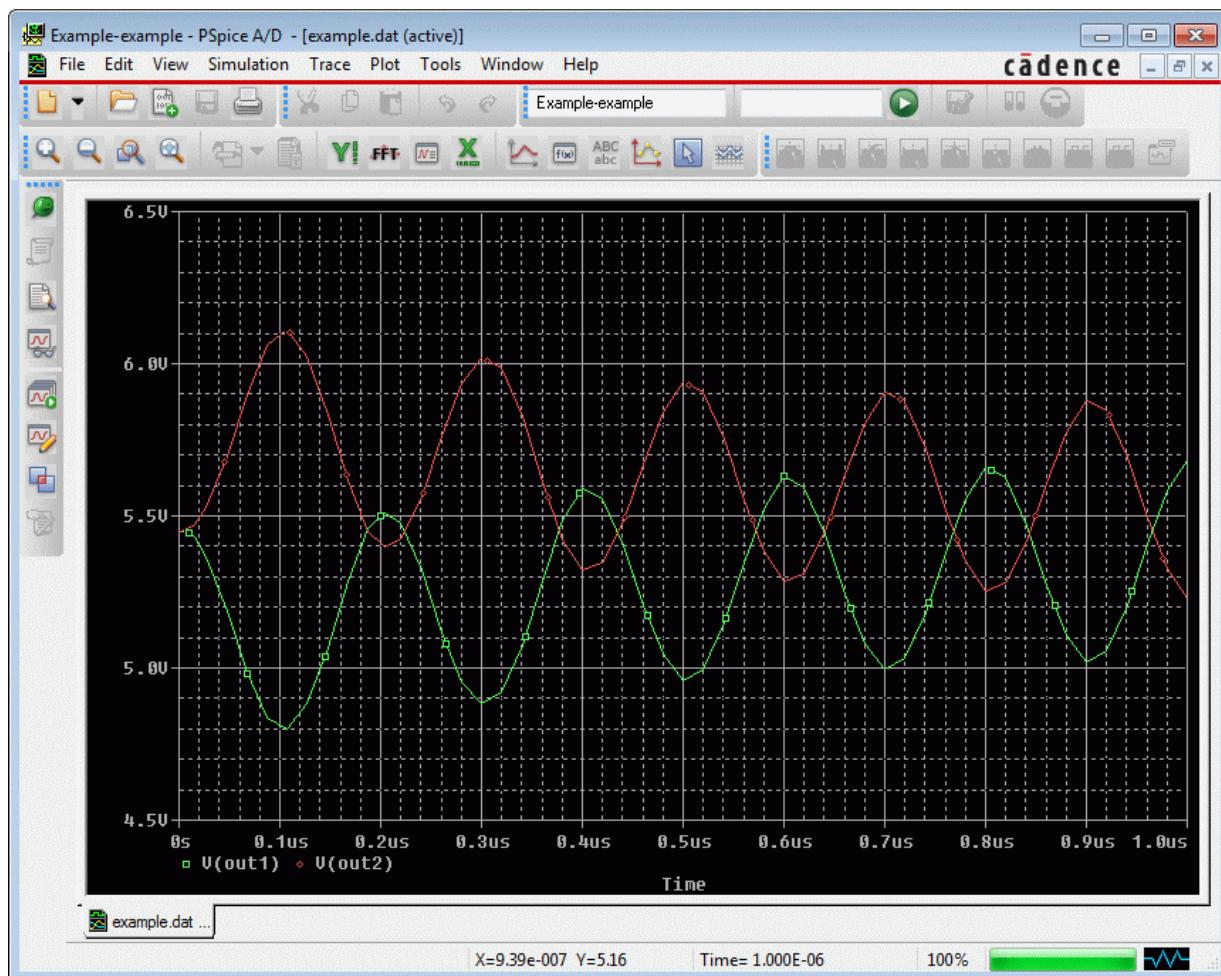

Figure 17-7 Waveform display for
PSpice generates a binary waveform data file containing the results of the simulation. A new Probe window appears with the waveform data file EXAMPLE.DAT already loaded (Figure 17-7).
2. Click V(OUT1) and V(OUT2), then click OK. The Probe window should look similar to Figure 17-7.